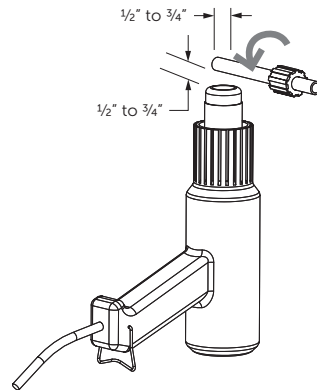

Figure 1. 213-79.
1. When using an Entegris hot air gun, set the hot air gun (see Figure 1) on "high." Hold 1/2" to 3/4" of the PFA tubing 1/2" to 3/4" above the heater and continually rotate the tubing 360° for the approximate time specified in Table 1 or until a fine, clear line appears around the tubing.